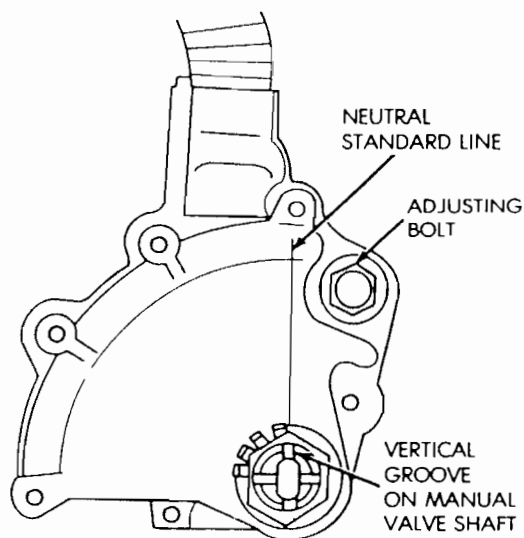

Fig. 5 Neutral Switch Adjustment
- (1) Disconnect shift linkage rod from shift lever on left side of transmission.
- (2) Rotate manual shift lever all the way rearward. Then rotate lever forward two detent positions to Neutral.
- (3) Install switch on manual valve shaft and install switch adjusting bolt finger tight. Do not tighten bolt at this time.
- (4) Install tabbed washer on manual valve shaft and install switch attaching nut. Tighten nut to 6.9 N·m (61 in-lbs) torque but do not bend washer lock tabs over nut at this time.
- (5) Verify that transmission is in Neutral.
- (6) Rotate switch to align neutral standard line with vertical groove on manual valve shaft (Fig. 5).